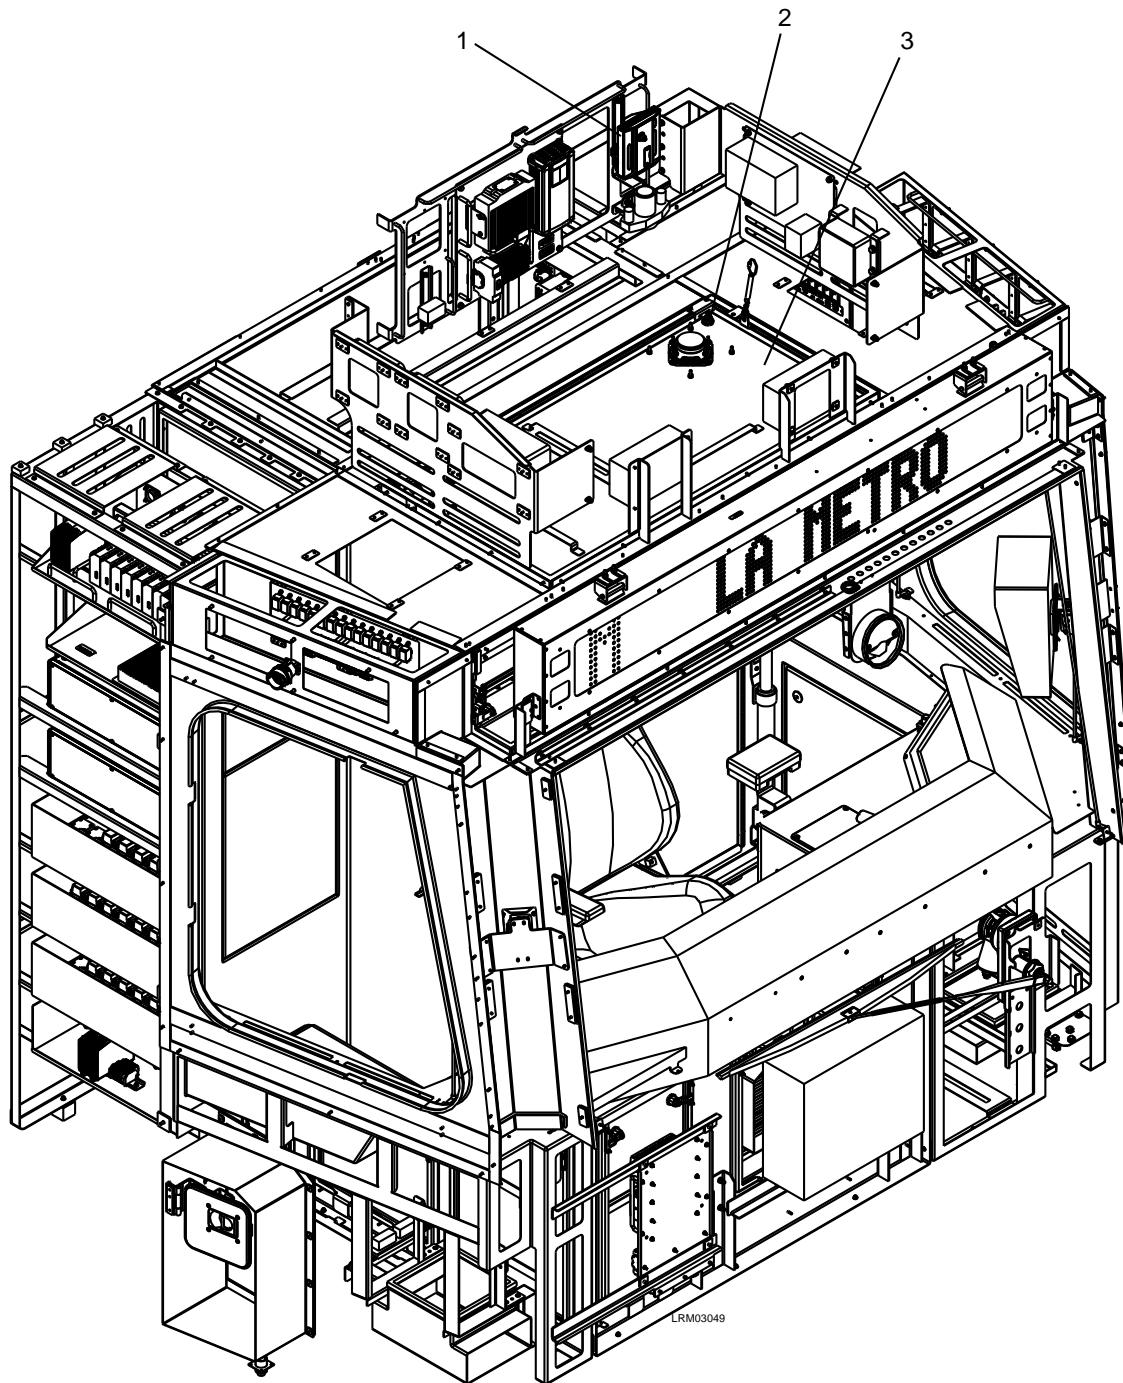

Figure 7-57: Remote I/O
1. Unlock the two locks (2) and lower the cab ceiling panel (3) to access the Remote I/O (1) and disconnect the electrical connectors. See Figure 7-57.
2. Remove the Remote I/O (1) by unlatching the lever located on the side.
3. Carefully remove the Remote I/O (1).